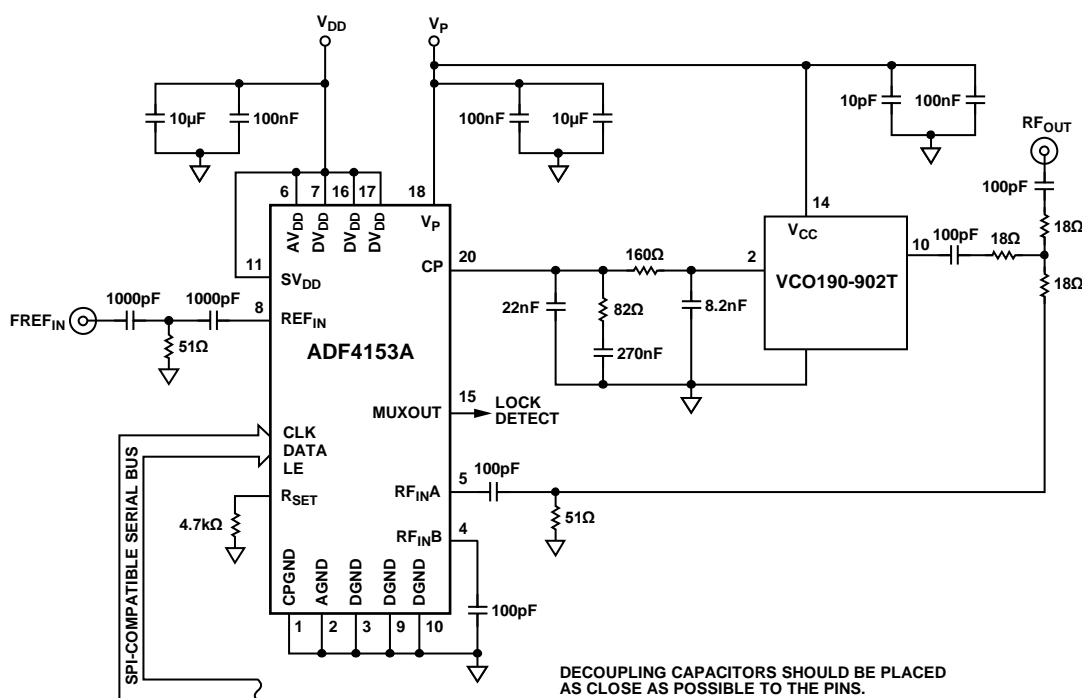

Figure 25. Local Oscillator for a GSM Base Station Transmitter
Figure 25 shows the ADF4153A being used with a VCO to produce the local oscillator (LO) for a GSM base station transmitter.